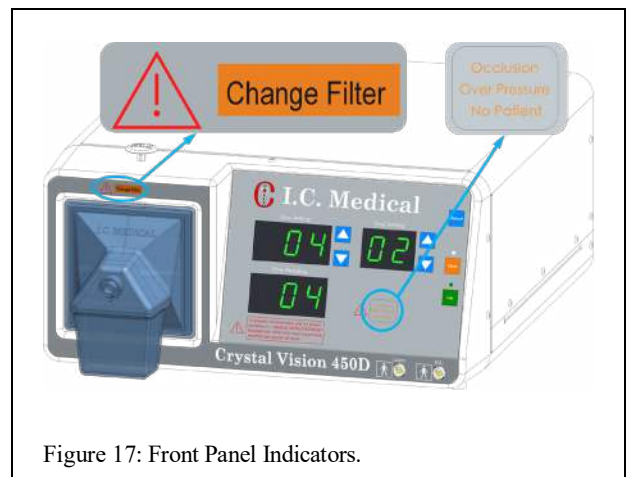

Figure 17: Front Panel Indicators.
10. CHANGE FILTER indicator is located above filter (Fig. 17). It illuminates when there is a reduced flow into the CRYSTAL VISION®. The **SAFEGUARD BLUE®** Hydrophobic ULPA Filter with Built-in Fluid Trap should be changed when this light first illuminates. Do not attempt to clean, or re-use the **SAFEGUARD BLUE®** Hydrophobic ULPA Filter with Built-in Fluid Trap. Dispose of the **SAFEGUARD BLUE®** Hydrophobic ULPA Filter with Built-in Fluid Trap according to your institution's biological waste protocol. This indicator will also come ON when there is a total occlusion. If the OCCLUSION indicator is also lit, be sure to clear the obstruction that caused it first and then check the CHANGE FILTER indicator. If it is still illuminated and the OCCLUSION indicator is not, then the **SAFEGUARD BLUE®** Hydrophobic ULPA Filter with Built-in Fluid Trap needs to be changed.
11. OCCLUSION indicates that flow into the CRYSTAL VISION® has stopped (Figure 17). The CHANGE FILTER light will also come ON at this time. The operator should check for kinked tubing, stopcocks that are turned OFF, clogged insufflator, use by date of Large Coconut Charcoal Output Filter, or a completely clogged or full fluid trap in the **SAFEGUARD BLUE®** Hydrophobic ULPA Filter with Built-in Fluid Trap. In order to prevent pump failure, the CRYSTAL VISION® pump will not activate when this lamp is illuminated.
12. OVER PRESSURE indicates pressure exceeding 27 mmHg in the pneumoperitoneum (Figure 17). At pressures over 30 mmHg, the vacuum pump starts in order to reduce the pressure in the pneumoperitoneum. This situation can be caused by many factors. Frequently, the surgeon presses on the abdomen and this causes intra-abdominal pressure to rise. Correct the cause before continuing.
13. The "NO PATIENT" indicator (Figure 17) turns on when the CRYSTAL VISION® is in the LAP MODE, when zero pressure, or atmospheric pressure, is present at the **SAFEGUARD BLUE®** Hydrophobic ULPA Filter with Built-in Fluid Trap. The tubing set may not be connected to the Trocar sheath or to the **SAFEGUARD BLUE®** Hydrophobic ULPA Filter with Built-in Fluid Trap; the valve on the Trocar sheath may be turned off; or the **SAFEGUARD BLUE®** Hydrophobic ULPA Filter with Built-in Fluid Trap may not be attached to the **SAFEGUARD BLUE®** Hydrophobic ULPA Filter with Built-in Fluid Trap connector.